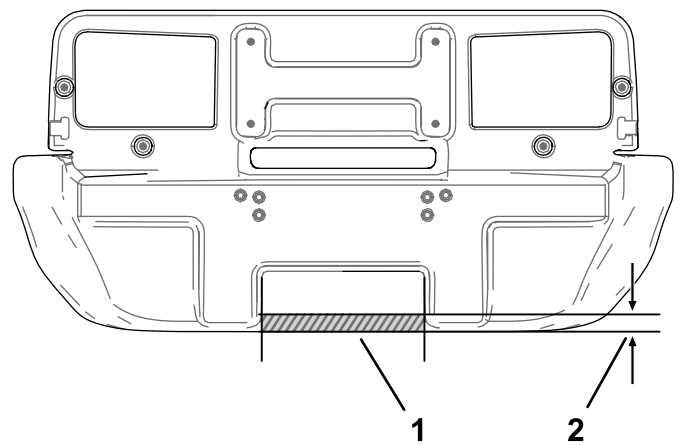

Figure 60
1. On the back side of the bumper, mark 1 inch above the bottom of the bumper in the depressed center area as shown in Figure 60.